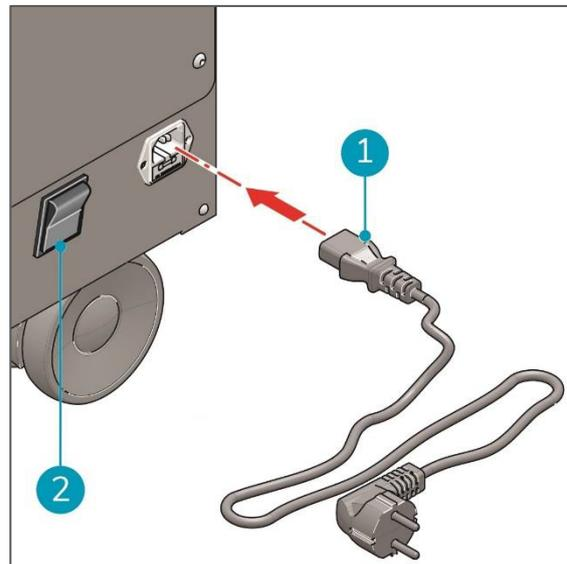

Figure 8
1. Insert the power cable into the power cable socket of the ICon Pro and the power plug into the wall socket (Figure 8, pos. 1).
2. Press the main power switch to turn on the power (Figure 8, pos. 2).
3. Press the main power switch (Figure 8, pos. 2) again to turn off the power.